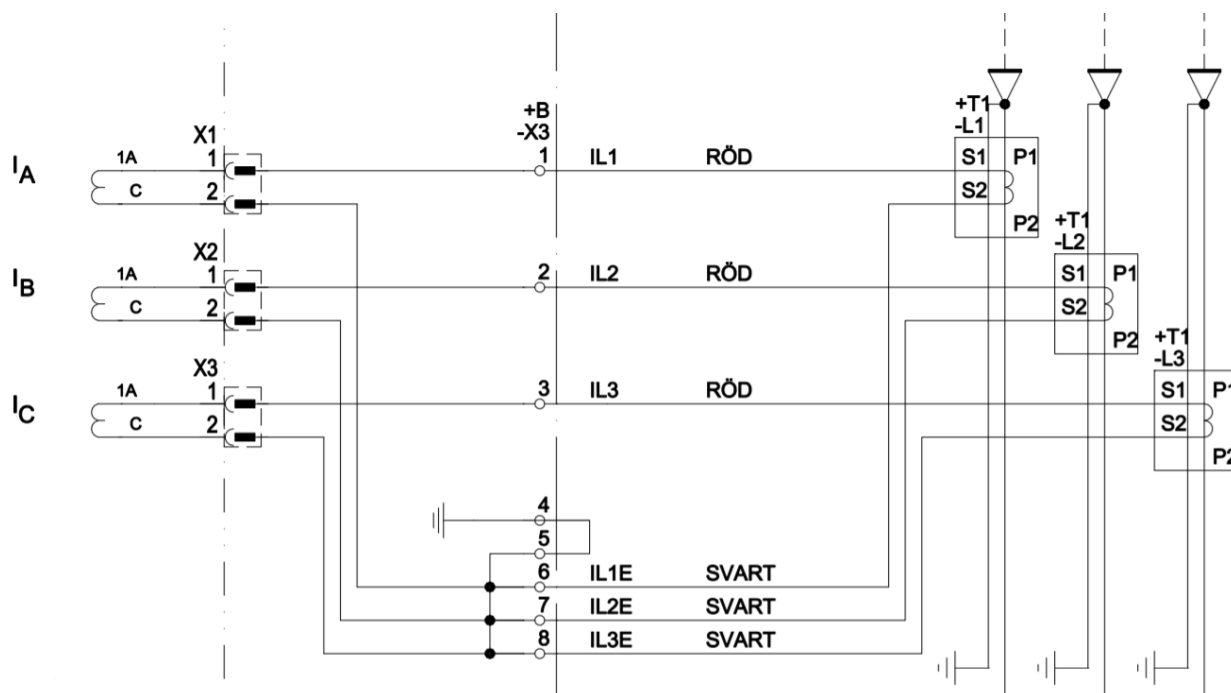

Figure 4: Connecting current transformers to the terminal blocks (RÖD = RED, SVART = BLACK).
4. Connect the secondary leads of the current transformers to the lower side of terminal group X3 according to the circuit diagram, see Figure 4 for an example.
2. Connect the secondary leads of the current transformers to the lower side of terminal group X3 according to the circuit diagram, see Figure 4 for an example.